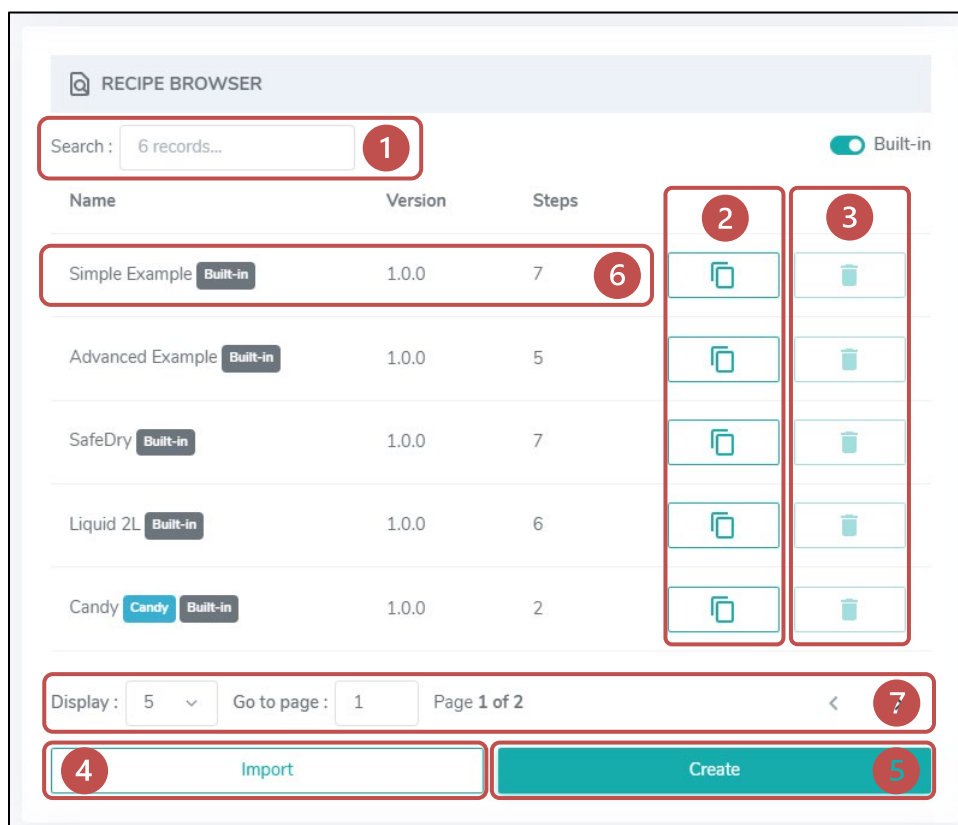

Figure 63
The Recipe Browser, located at the top of the Recipes page (Figure 63), provides basic information about recipes, including name, version, and number of steps. It also offers functionalities such as searching (1), copying (2), deleting (3), importing (4), creating (5), and editing (6) recipes.
The following explains each section of the Recipe Browser as shown in Figure 63:
From the Recipe Browser (Figure 63), tap a recipe or the “Create” button to open it in the Recipe Editor.